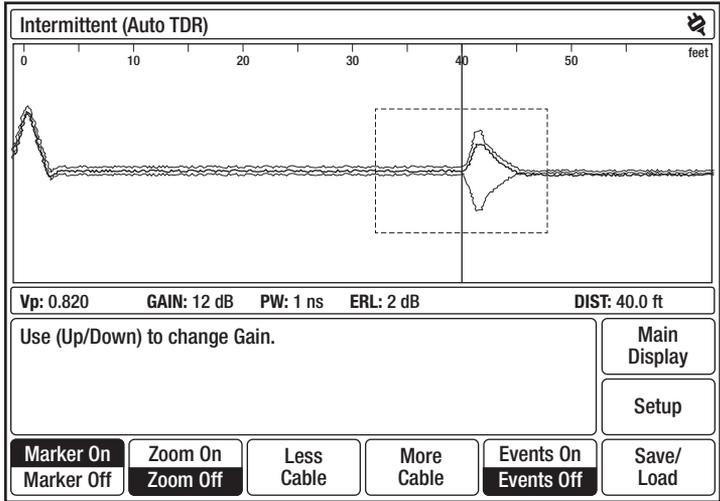

Figure 4-13: Intermittent (Auto TDR)
2. Press **Return to Test** to display the waveform (Figure 4-13).